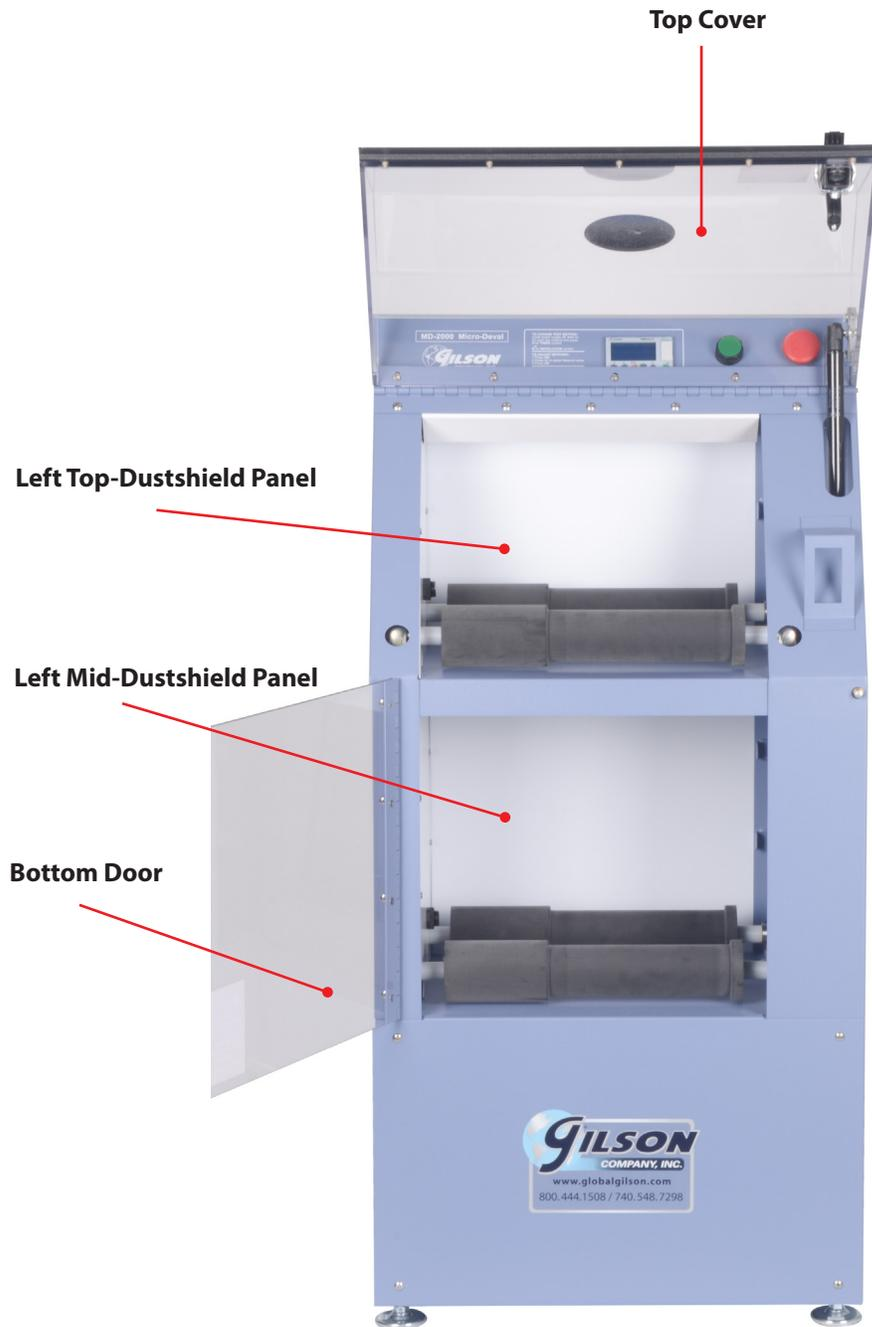

Figure 5
- After watertight seal is confirmed, load the jars onto the rollers. The lid of each jar must face the optical encoder on the left side of the cabinet (see Figure 5).